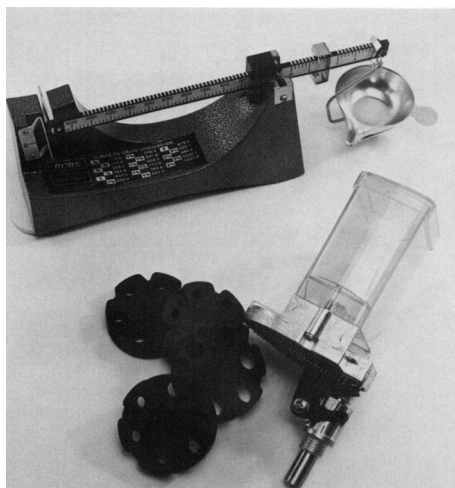

Fig. 9-2. Powder scale and automatic measure.
- Once the proper charge has been determined, a means to measure that amount is needed. Lee Engineering produces a simple set of powder dippers which give good loads. These are inexpensive and easy to use, but don't use them for maximum loads because dippers have a greater margin of error than other measuring devices. Figure 9-2 shows the reloading scale (which usually can detect weights as little as 1/70,000 of a pound by interpolation!) and the handiest automatic measure I have seen for charging cases on a turret press. The old standby, the adjustable powder measure, can throw any powder charge in any increment, and is used in conjunction with a scale to set the measure to your charge. Once this measure is adjusted, every fifth charge or so should be weighed to see if the adjustments are still accurate. Place one charge in each case, and when all the cases have been charged, look inside each case to make sure there are none without powder, and none that have more than the rest.